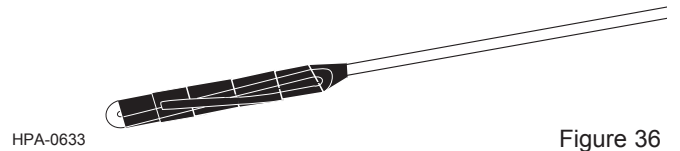

Figure 36
**Step 3:** Continue to tightly wrap the cable with electrical tape until all over-lapping pieces are covered (Figure 36).